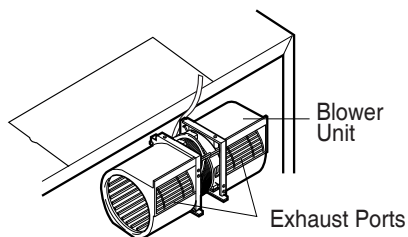

Figure 17
5. Rotate and reinstall the blower unit so that the exhaust ports face the rear of the cabinet and are aligned with the rear cut-outs. See Figures 17 & 18.